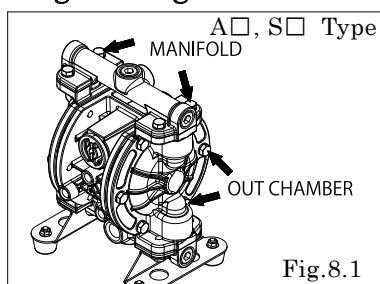
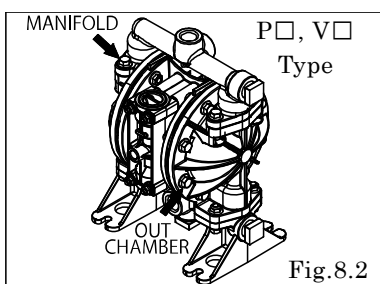

Fig.8.1
Fig.8.2
- Retighten the Out chamber and then the manifold in this order. [Fig.8.1, Fig.8.2]